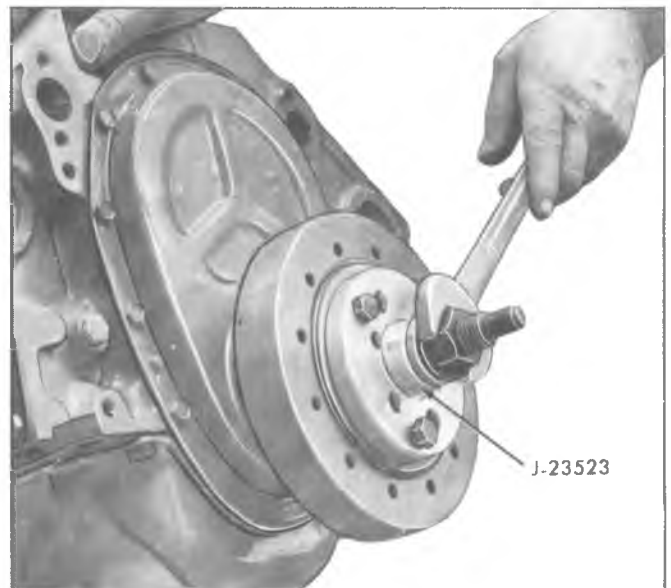

Fig. 11L—Installing Torsional Damper (Pull on Type)
- d. Pull damper into position as shown in Figure 11L.